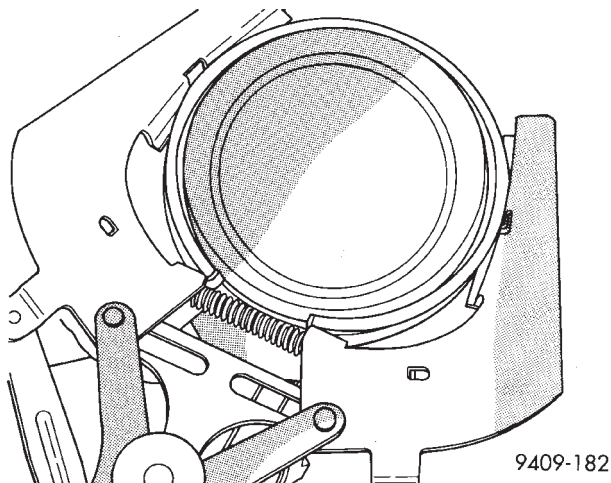

Fig. 89 Piston Rings—Removing and Installing
(1) ID mark on face of upper and intermediate piston rings must point toward piston crown.
(2) Using a suitable ring expander, remove upper and intermediate piston rings (Fig. 89).